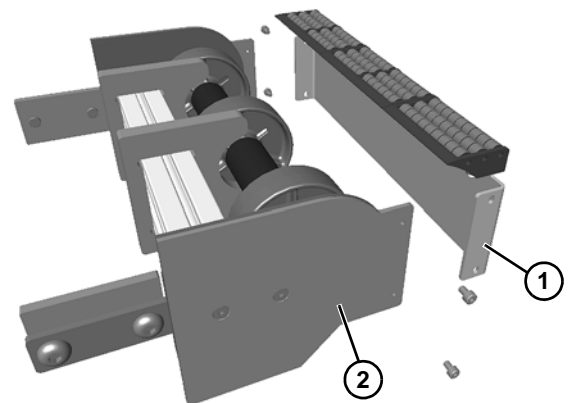

Figure 90
5. Remove the transfer roller and transfer bracket assembly (**Figure 90, item 1**) from the idler tail assembly (**Figure 90, item 2**).